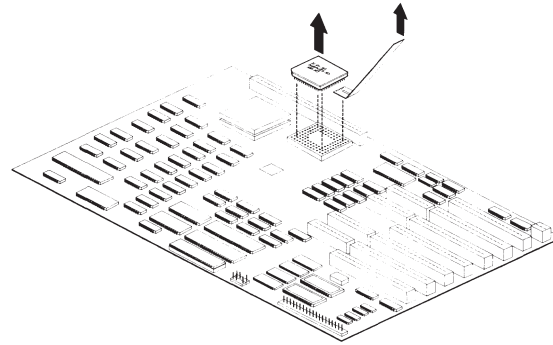

Figure 7-47. Removing the 387 Coprocessor.
3. Using an upward motion, lift the side of the coprocessor slightly (Figure 7-47).